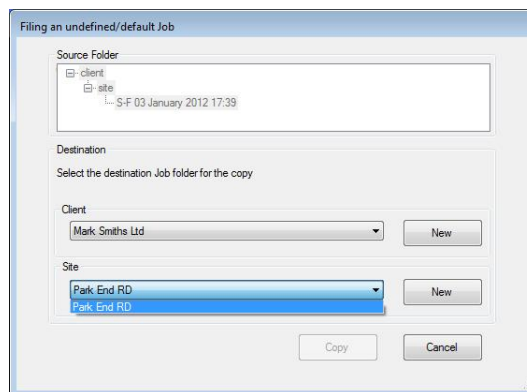

Figure 3.9 Copy a default survey to a client / site
2. Select Copy, (or right click on your mouse) and the Default Copy screen will appear (see Figure 3.9).